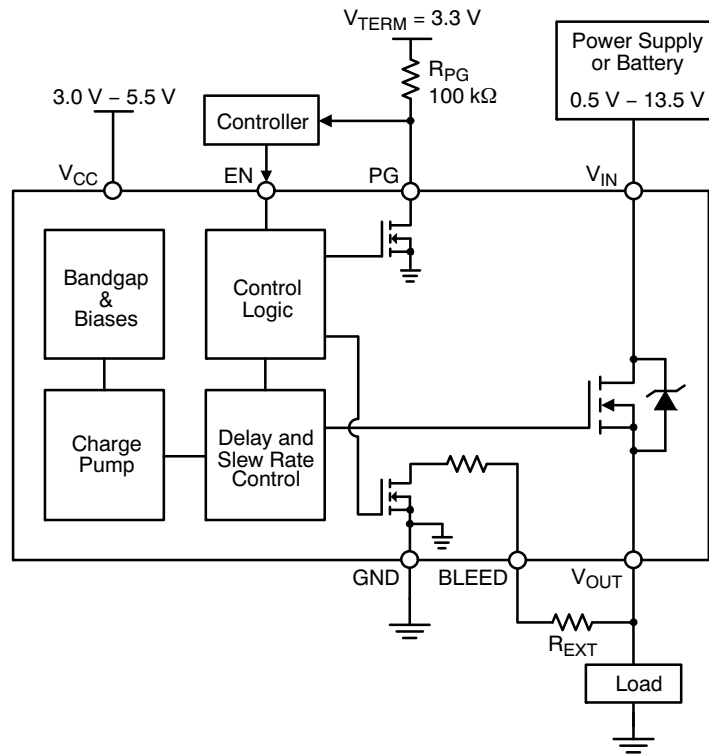
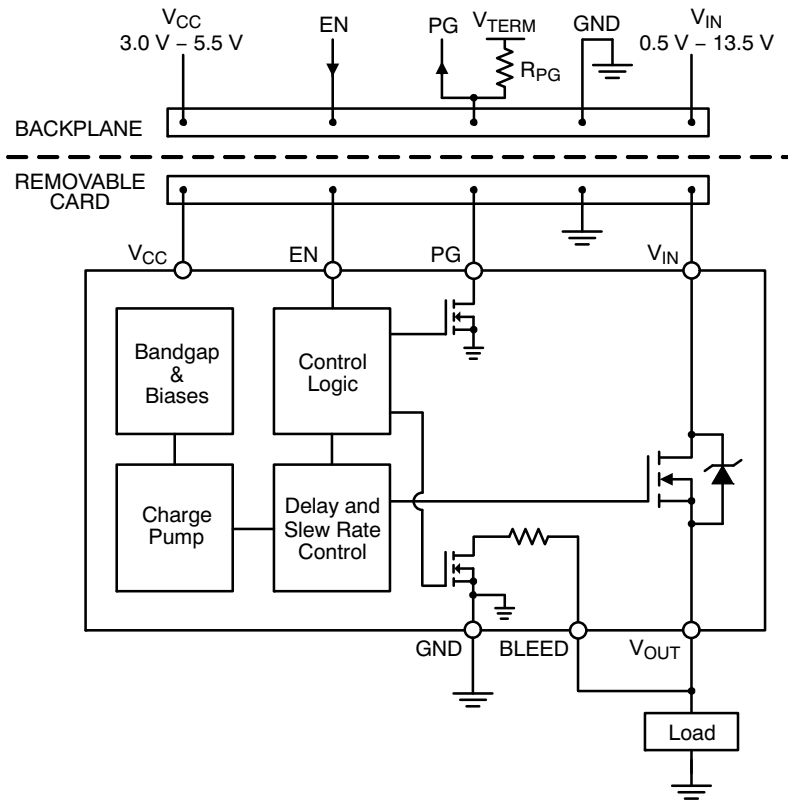

Figure 3. NCP45524 Typical Application Diagram - Load Switch
Figure 4. NCP45524 Typical Application Diagram - Hot Swap
In order to realize this functionality, the BLEED pin must be connected to VOUT either directly (as shown in Figures 4 and 7) or through an external resistor, REXT (as shown in Figures 3 and 6). REXT should not exceed 1 kΩ and can be used to increase the total bleed resistance.
The NCP45524 devices have a power good output (PG) that can be used to indicate when the gate of the MOSFET is fully charged. The PG pin is an active-high, open-drain output that requires an external pull up resistor, RPG, greater than or equal to 1 kΩ to an external voltage source, VTERM, that is compatible with input levels of all devices connected to this pin (as shown in Figures 3 and 4).